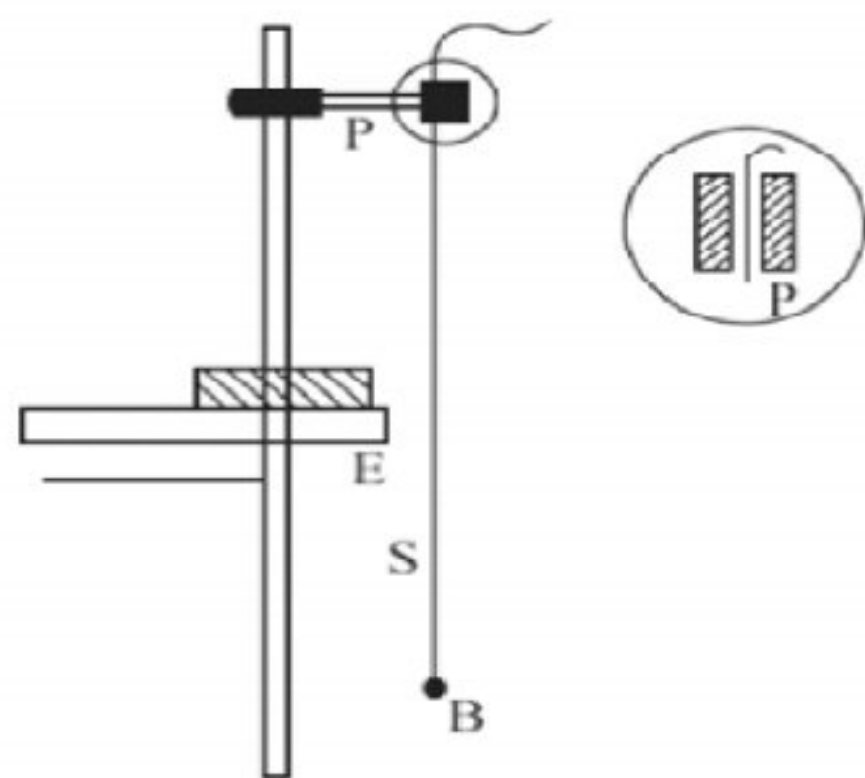
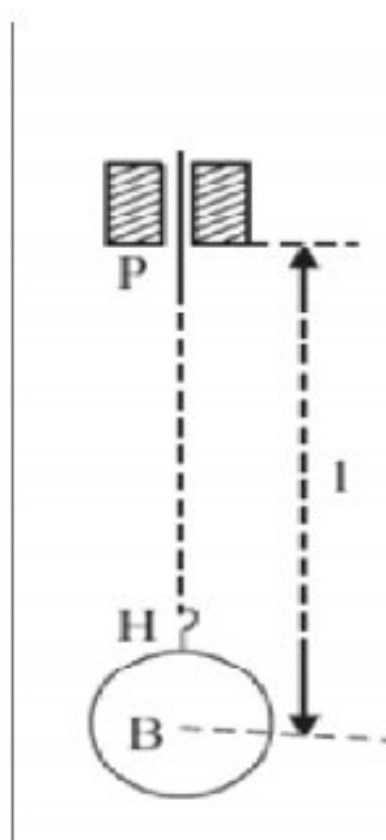

Fig. 3.1
Fig. 3.2
A simple pendulum is a small heavy 'bob' B hanging by a light and inextensible string S (fig. 3.1). In 'equilibrium position' string is vertical. While oscillating, the 'amplitude of oscillation' is the maximum angle that thread makes with the vertical (or sometimes the maximum horizontal displacement of the bob). Its time period T, i.e., time taken for one oscillation depends on its length i.e. distance from point of suspension to C.G. of bob B (fig. 3.2):
- (ii) Pass the other end of the thread between two pieces of the split cork and clamp it in the clamp of the stand (Fig 3.1). The point P, where the thread comes out of the cork is thus a sharp point of suspension, whose position does not change the pendulum swings. To ensure this, check up that two pieces of the split-cork have sharp lower edges at P.
- (iii) Make a length of about 125 cm of this pendulum for the first set of readings. Measure the length from foot of the hook H to point of suspension P (fig 3.2), Add to it half the diameter of the, bob to obtain l . the length of the pendulum. Length PH must be measured with bob suspended, as the thread may have some elastic extension by the weight of the bob.
- (iv) Adjust position of stand to bring this pendulum close to edge E of the table (Fig 3.1). On a white strip of paper stuck at the vertical end face of the table, mark a vertical line. The thread coincide with this line in its vertical position, when you see it from the front.